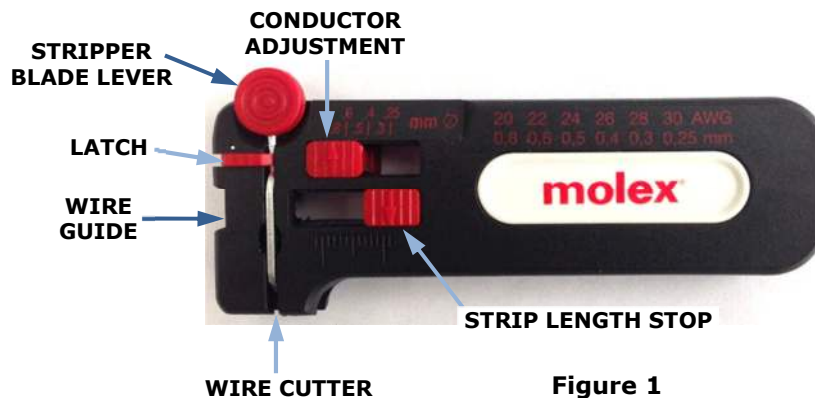

Figure 1
Follow the steps below for stripping the wire, and refer to Figure 1 to identify the components of the Micro Precision Wire Stripper:
1. Slide the latch in Figure 1 to unlock the Stripper Blade Lever.